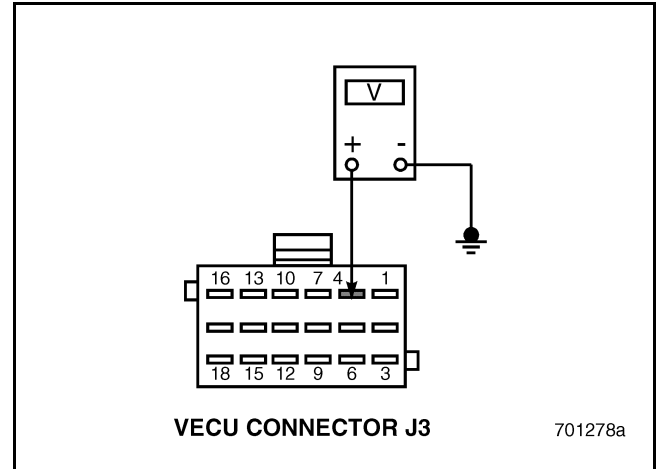

Figure 565
2. Disconnect the Throttle Position (TP) Sensor.
5. Measure the voltage between Vehicle Electronic Control Unit (VECU) connector J3 pin 4 and a good ground (see Figure 565).